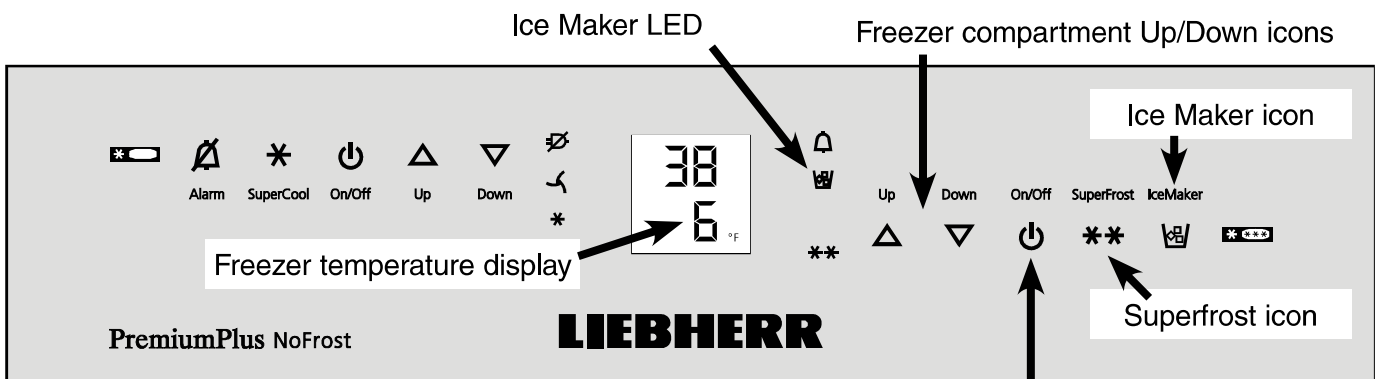

Figure 23
- Turn the Ice Maker on by touching the Ice Maker icon (**Figure 23**).
- Touch the **Ice Maker icon** so the **Ice Maker LED** comes on (**Figure 23**).
- Push down the button of the air filter, tilt to the front and remove - **Figure 23**.